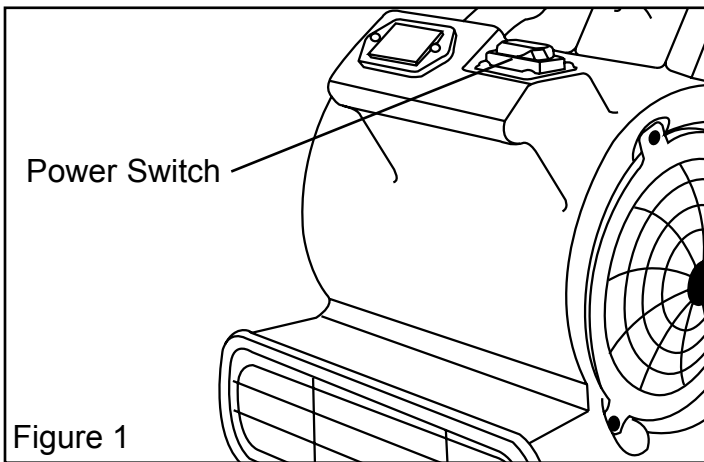

Figure 1
4. Push power switch on top of blower to the "ON" Position. (Figure 1)